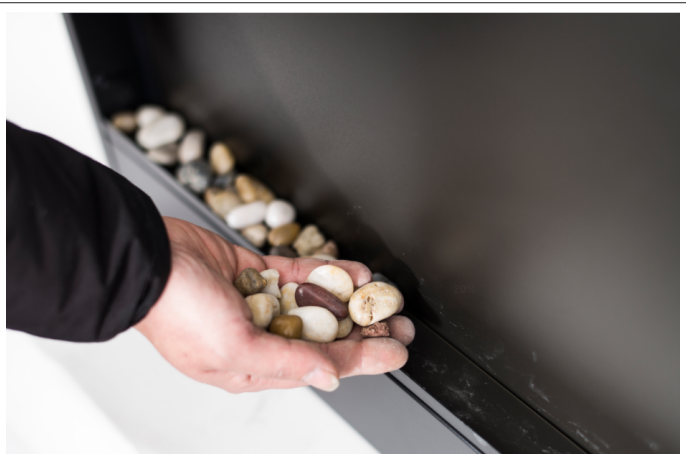

Figure 5.2, Small River Rock Installation
3. Carefully place the river rocks on the ember bed strip, as shown in Figure 5.2., Apply an even layer the full width and depth of the ember bed strip.